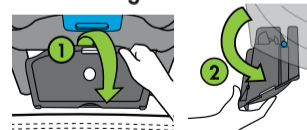

Figure 30
Grasp front edge of UAS Bin (1), and rotate it away from the Carrier (2), as shown in **Figure 30**.